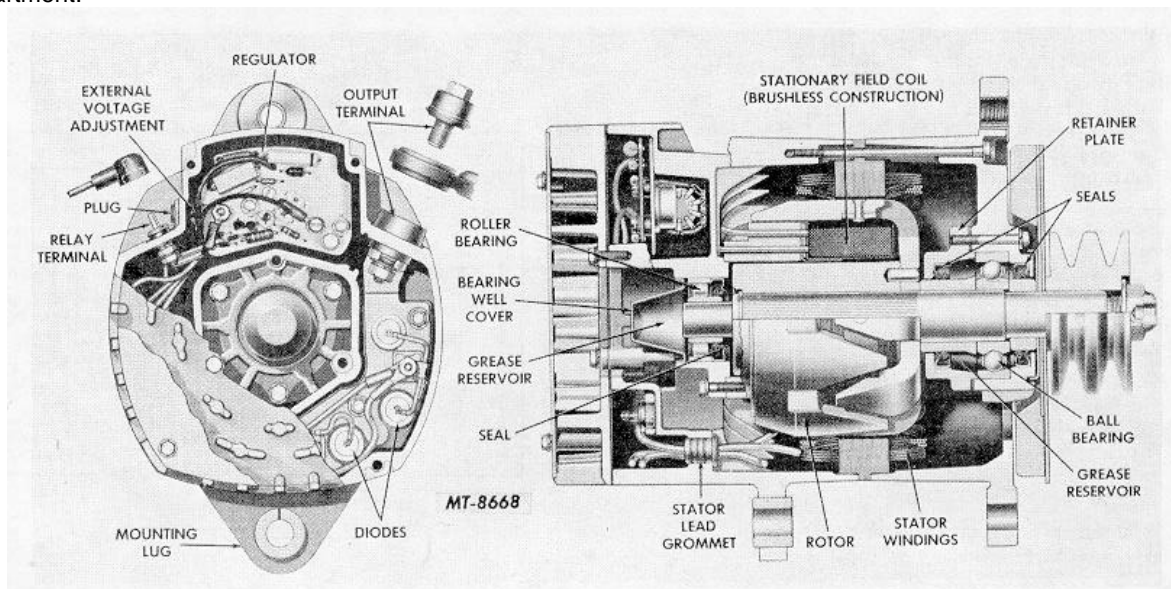

Figure 2 Sectional View of Alternator
- a. Remove pipe plug from integral charging system (Figure 2).